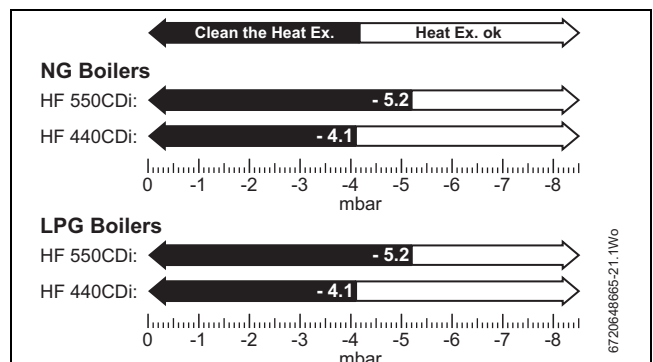

Fig. 46 Fan control pressure readings
Pressure readings will be negative, refer to figure 46.
- ▶ The pressure will read negative, refer to the chart in figure 46 below.